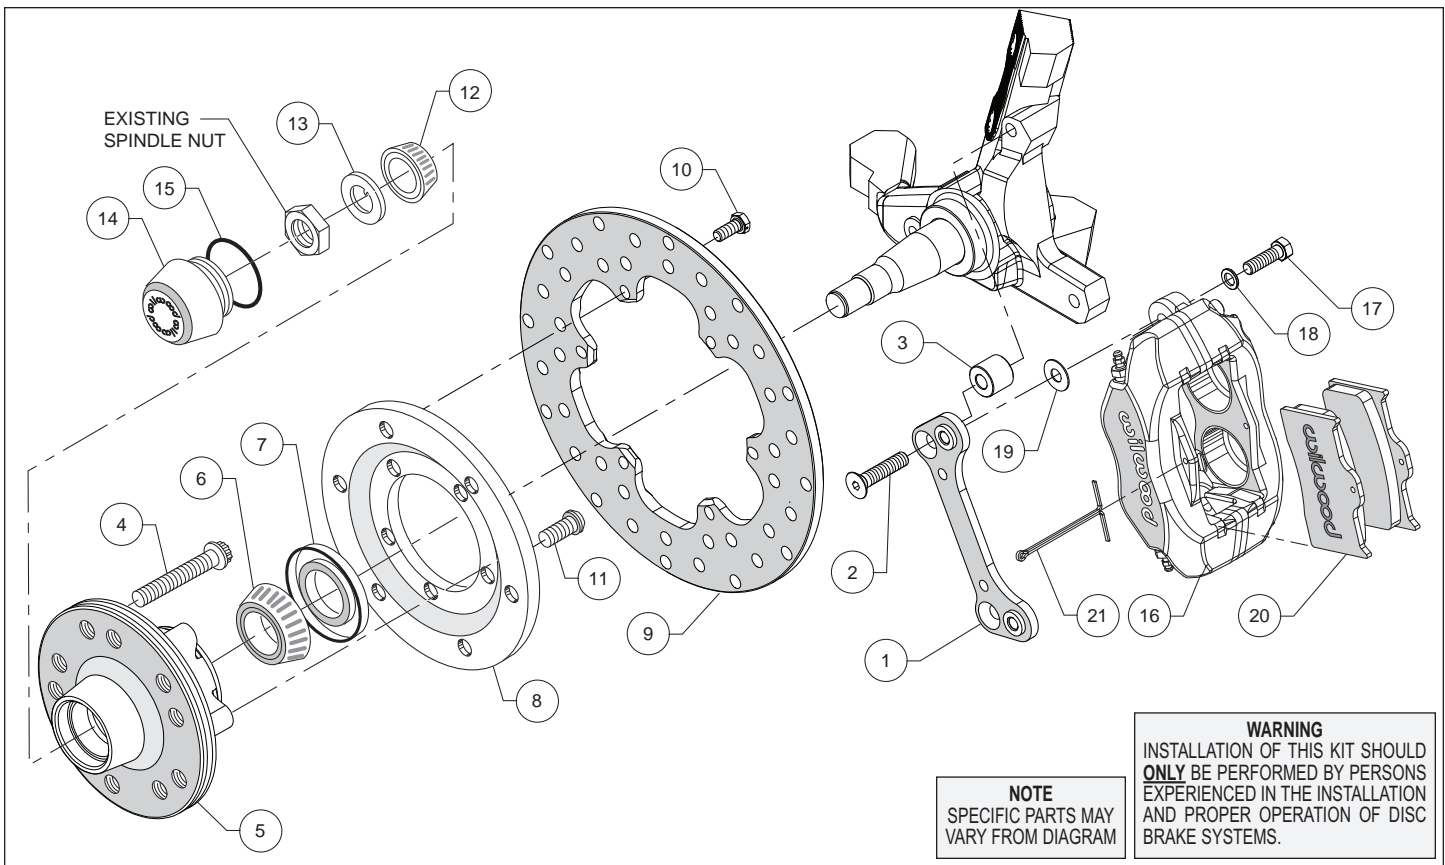
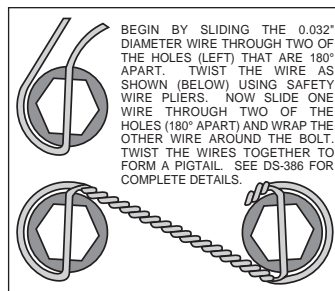
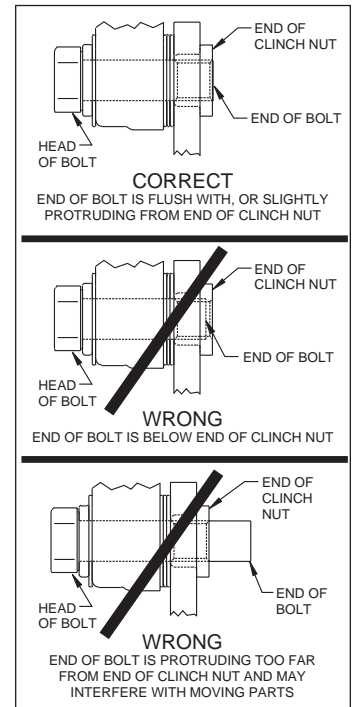

Figure 2. Typical Installation Configuration
Figure 4. Safety Wire Diagram
Figure 5. Clinch Nut Engagement Diagram
Assembly Instructions (numbers in parenthesis refer to the parts list, on the preceding page and Figure 2): **CAUTION:** All mounting bolts must fully engage clinch nuts. Be sure to check that all bolts are either flush or protruding through flanged side of clinch nut after shimming, Figure 5.
- Orient the caliper mounting bracket (1) as shown in Figure 2 and Photo 1. Attach using bolts (2) and spacers (3), Figure 2. Temporarily tighten the mounting bolts. Ensure that the flanged heads of the clinch nuts in the bracket are facing outboard, Photo 1. **NOTE:** The bracket must fit squarely against the mounting points on the spindle. Inspect for interference from casting irregularities, machining ridges, burrs, etc. Remove bolts one at a time, apply red *Loctite*® 271 to threads and torque to 30 ft-lbs.
- Install the grease seal (7) by pressing into the backside of the hub (5), flush with the end of the hub, Photo 3.
- Orient the rotor (9) and the rotor adapter (8) as shown in Figure 2 and Photo 4. Attach the rotor to the adapter using bolts (10). Using an alternating sequence, apply red *Loctite*® 271 to the threads, and torque to 25 ft-lbs. Safety wire bolts using standard 0.032 inch diameter stainless steel safety wire as shown in Figure 4. Refer to Wilwood's data sheet DS-386 (available at www.wilwood.com/Pdf/DataSheets/ds386.pdf) for complete safety wire installation instructions.
- Mount the adapter/rotor assembly (8 and 9) to the hub (5) using bolts (11), as shown in Figure 2 and Photo 5. Using an alternating sequence, apply red *Loctite*® 271 to the threads, and torque to 45 ft-lb.
- Pack the small outer bearing cone (12) with high temperature disc brake bearing grease and install into hub (5). Slide the hub/rotor assembly onto the spindle. Secure using spindle washer (13) and OEM spindle nut, Photo 6. Adjust bearings per OEM specifications. Install saved OEM nut lock (if any) and a new cotter pin (not included).
as shown in Figure 2. Initially place one .035" thick shim (19) on each bolt between the caliper and the bracket, Photo 8. Temporarily tighten the mounting bolts and view the rotor (9) through the top opening of the caliper. The rotor should be centered in the caliper, Photo 9. If not, adjust by adding or subtracting shims (19) between the bracket and the caliper. Always use the same amount of shims on each of the two mounting bolts. **NOTE:** The end of each bolt must be flush with or slightly protruding from the head of the clinch nut, as shown in Figure 5. If necessary place spare shims (19) between washer (18) and caliper mounting ear to achieve the proper clinch nut engagement. Once the caliper alignment and clinch nut engagement are correct, remove the bolts one at a time, apply red *Loctite*® 271 to bolt threads, and torque to 40 ft-lb. For an added measure of security, the bolts may be safety wired using standard 0.032 inch diameter stainless steel safety wire as shown in Figure 4. Refer to Wilwood's data sheet DS-386 (available at www.wilwood.com/Pdf/DataSheets/ds386.pdf) for complete safety wire installation instructions.